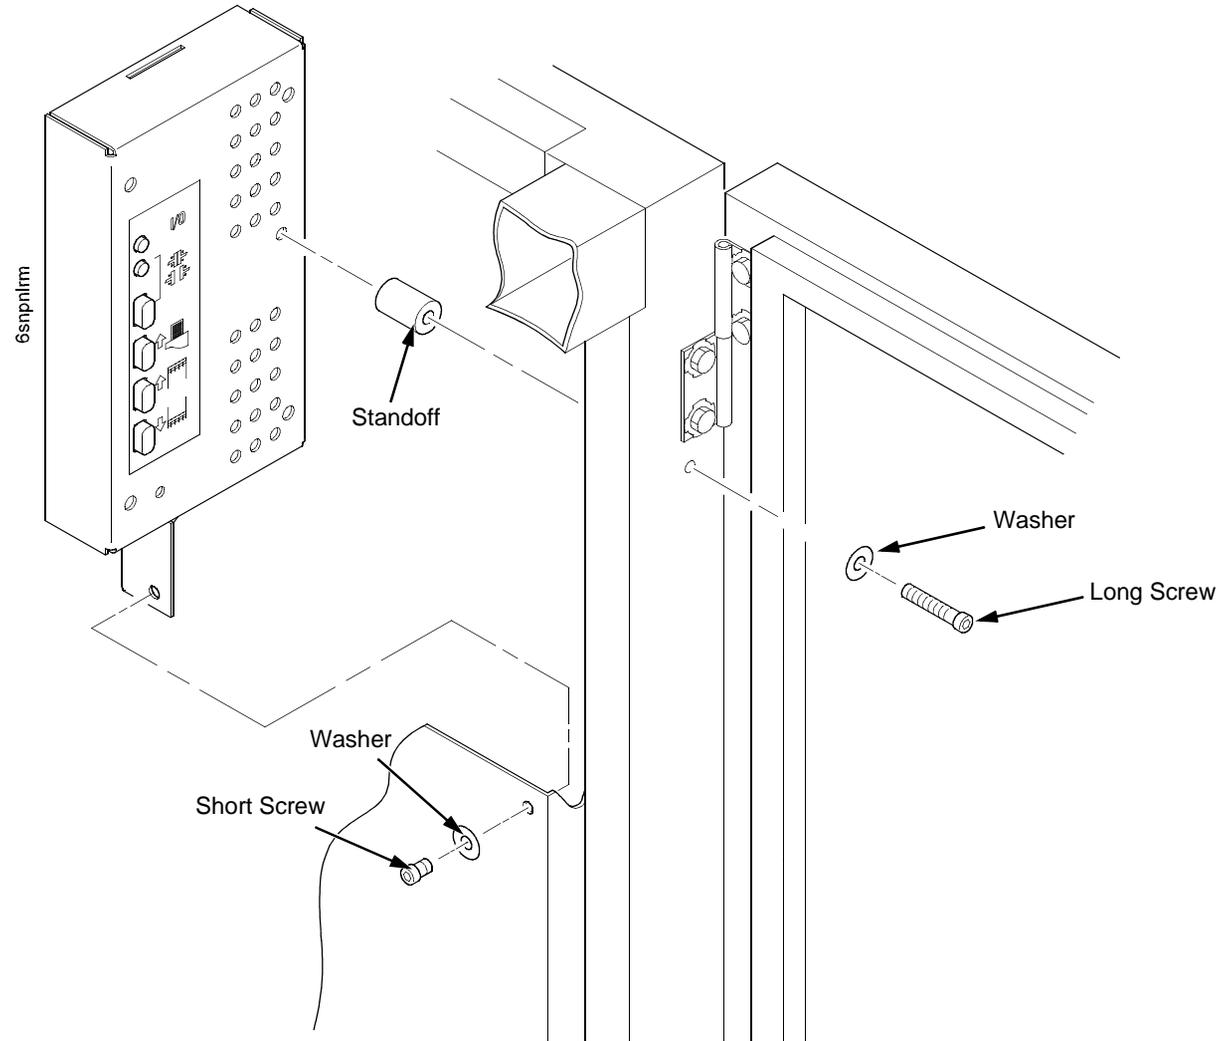

Figure 79. Removing the Stacker Control Panel
6. Remove the screws, washers, and spacer from the stacker control panel. (Figure 79.)